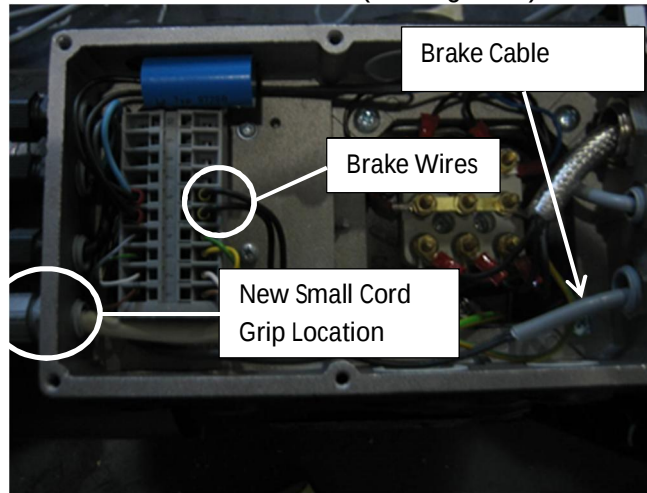

Figure 3
3. Remove 2 conductor brake wire cable (Black and Black) with yellow ferrule tips and reinstall in small cord grip where the encoder cable was. (See Figure 3).